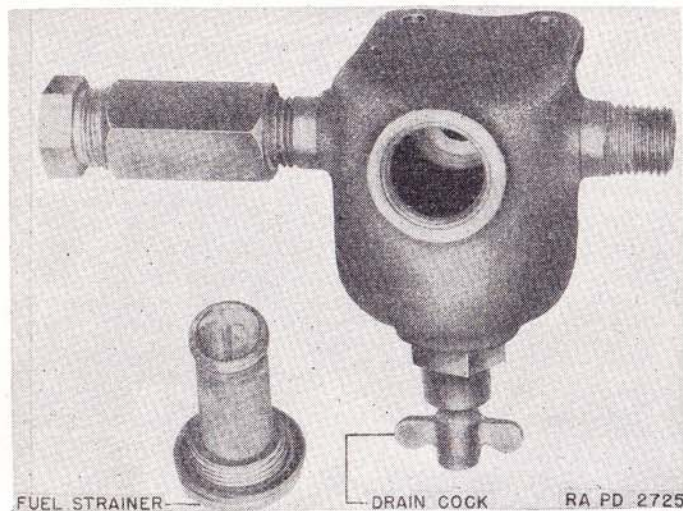

FIGURE 37.—Gasoline fuel strainer.
- (2) Loosen packing nut and remove primer plunger.
- (3) Unscrew large retaining flange type nut on front of instrument panel.
- (4) Remove from panel.
**64. Fuel strainer.**—*a. Description* (fig. 37).—The fuel strainer is of the sediment bowl type installed in the fuel system between the fuel supply valves and the fuel pump. It is located in the right rear corner of the engine compartment.